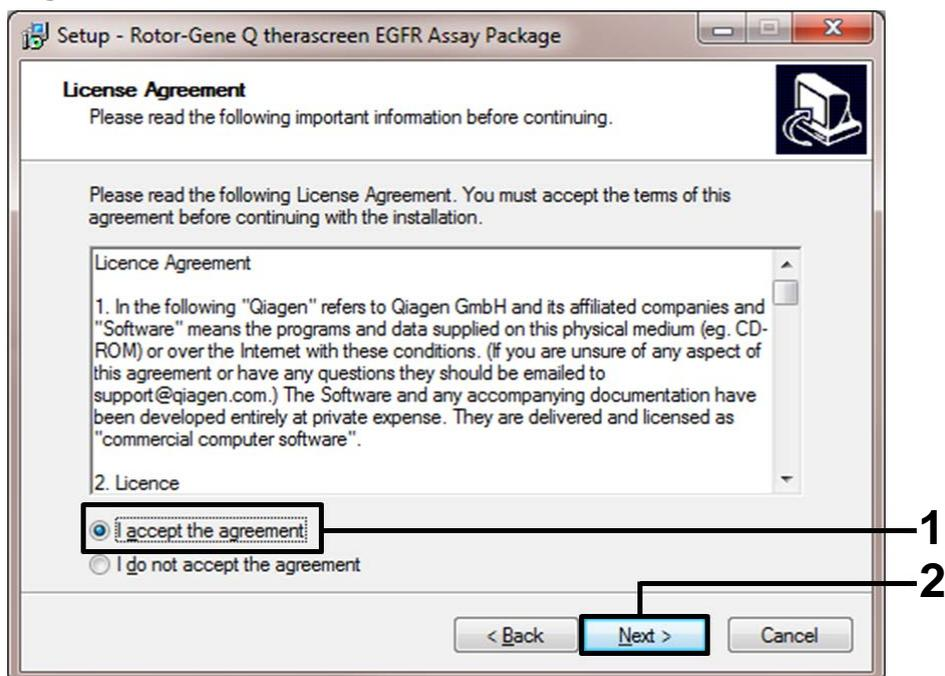

Figure 42. The “License Agreement” dialog box (1 = “I accept the agreement”; 2 = “Next” button).
5. Read the License Agreement in the dialog box and accept the agreement by checking the statement “I accept the agreement”. Click “Next” to continue (Figure 42).